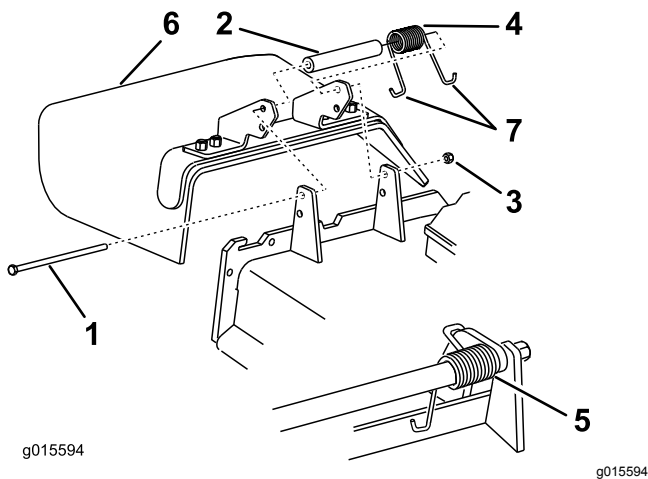

Figure 6
- Remove the locknut, bolt, spring, and spacer securing the deflector to the pivot brackets (Figure 6).
- Remove the grass deflector (Figure 6).